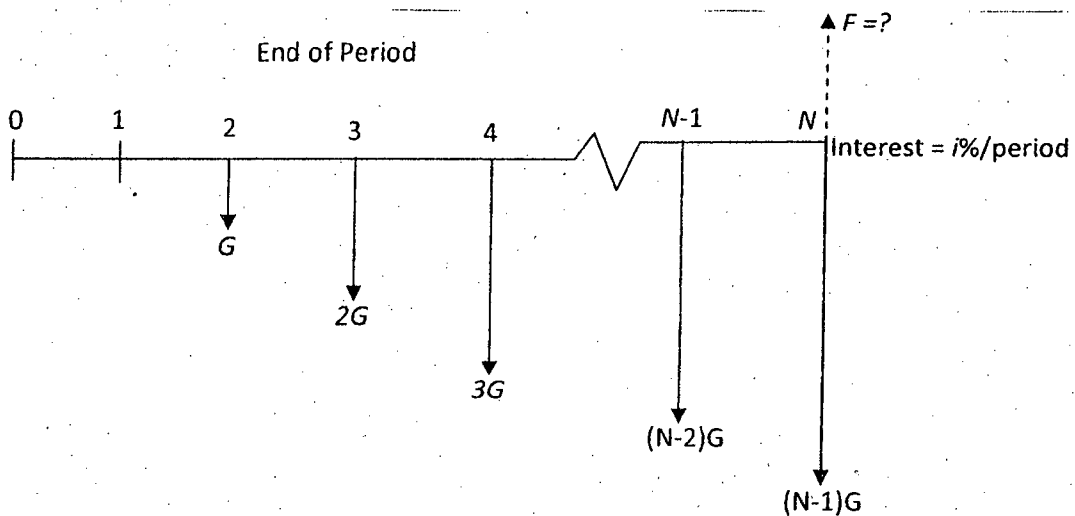

Figure 1: Cash Flow Diagram for Q.2(a)
- (b) What do you understand by the term 'Economic Equivalence'? Explain with a suitable example that equivalence can be established when total interest paid, divided by dollar-years of borrowing, is a constant ratio among financing plans (i.e., alternatives). (12)
- (c) What are the principles of engineering economy you need to consider when you want to compare mutually exclusive alternatives? Discuss briefly. (6)
2. (a) Refer to the cash flow diagram shown in Figure 1 and solve for the unknown quantity in parts (i) through (iv) that makes the equivalent value of cash outflows equal to the equivalent value of the cash inflow. (13 1/3)